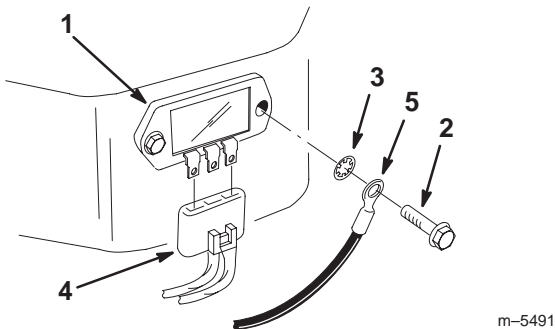

Figure 4
2. Remove the existing voltage regulator from the engine as shown in figure 4. Save the mounting hardware.
3. Install the new voltage regulator to the engine with existing hardware. Refer to figure 4.
4. Install the wire connector onto the new voltage regulator (Fig. 4).